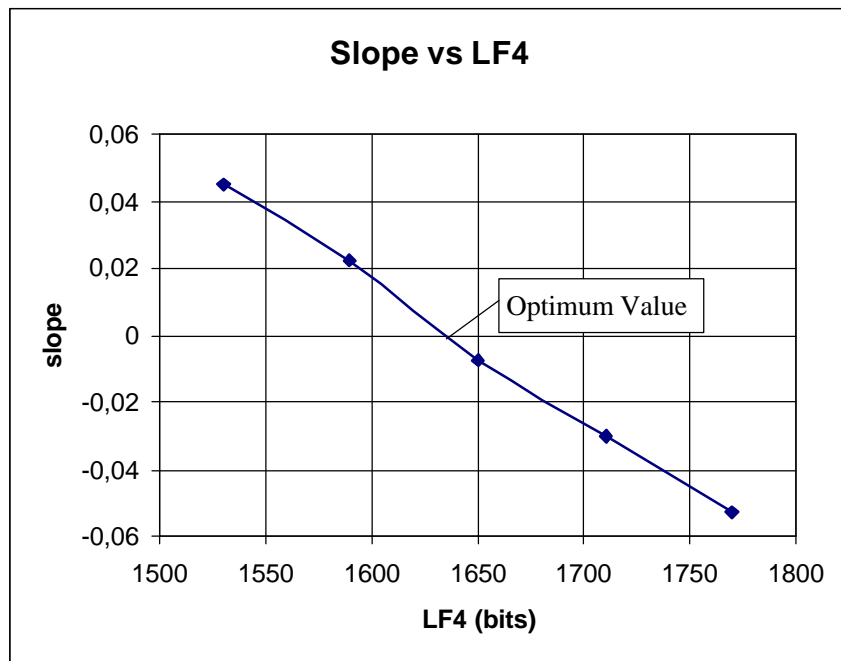

Figure 15: Slope vs LF4.
- ☐ Select the optimum value for LF4 which corresponds to a motionless mass line (slope = 0 on figure15)